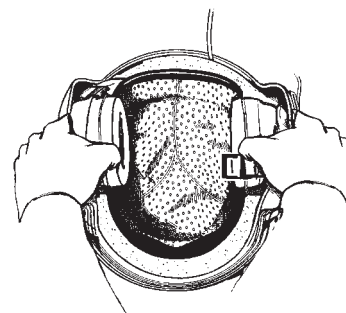

Figure 2-15. Grip for Donning Helmet
- a. Hook thumbs in earcups as shown in Figure 2-15, and spread helmet slightly.